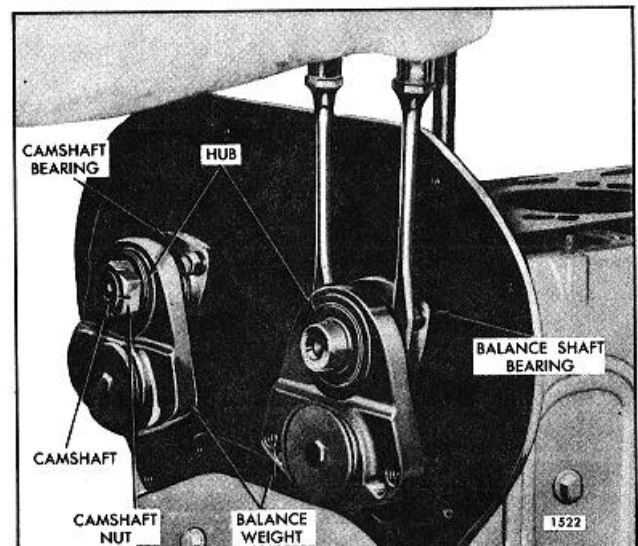

Fig. 3. Removing Balance Weight Assemblies
4. Force the balance weight off the end of each shaft with two heavy screw drivers or pry bars between the heads of the bearing retaining bolts and the balance weight (Fig. 3).